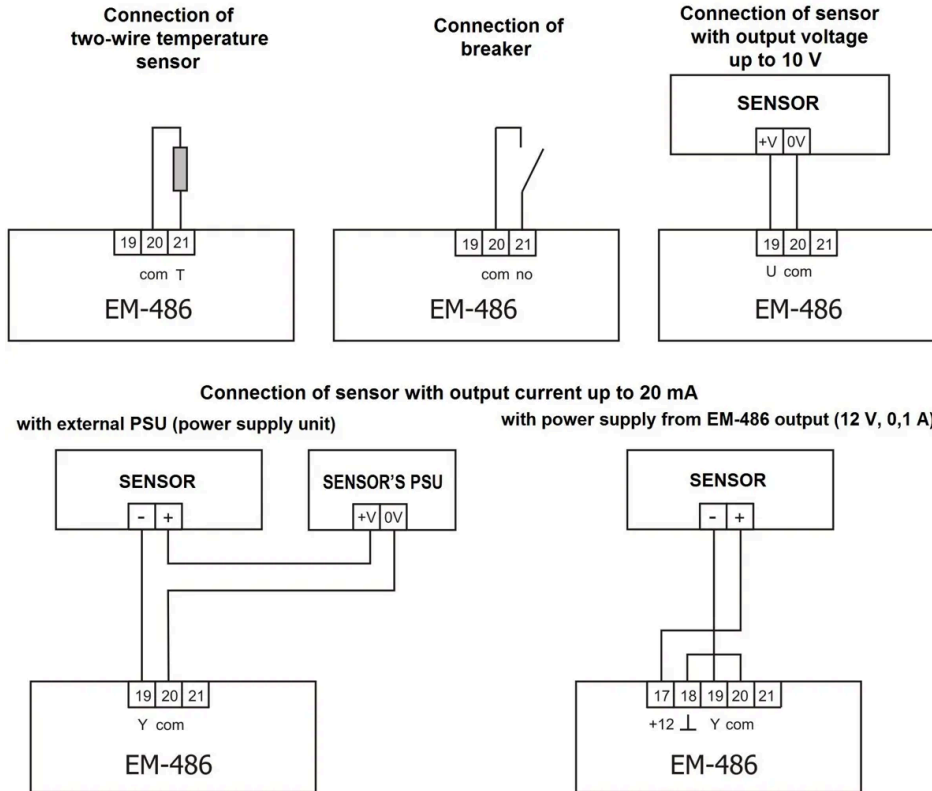

Figure 5.2 – Sensors connection diagram
4. In case of sensors connection to EM-486 universal inputs «IN». The ways of connection of different types are provided in figure 5.2.